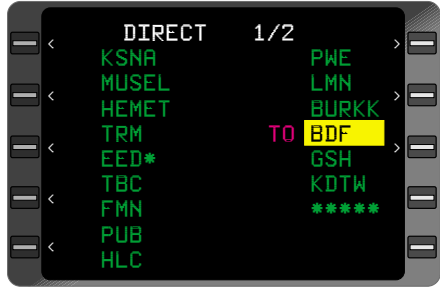

Figure 3-136
- Line Select Key - DEPRESS to position cursor over desired waypoint. (Figure 3-136)